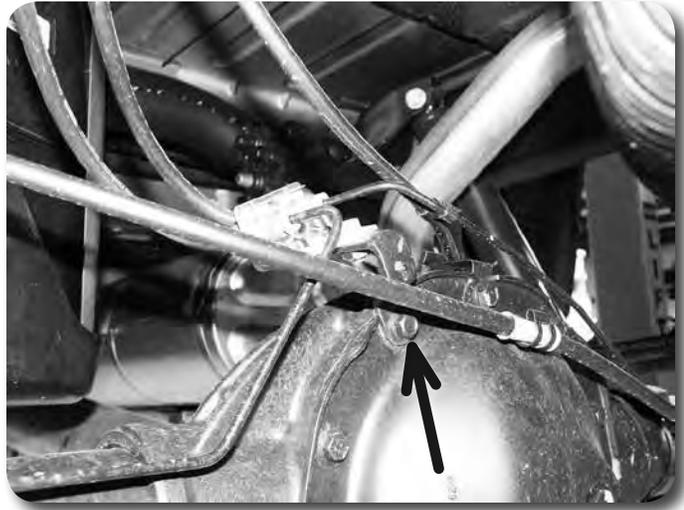

Figure 41
4. Disconnect the rear brake line bracket from the top of the differential **Figure 41**. Save hardware.